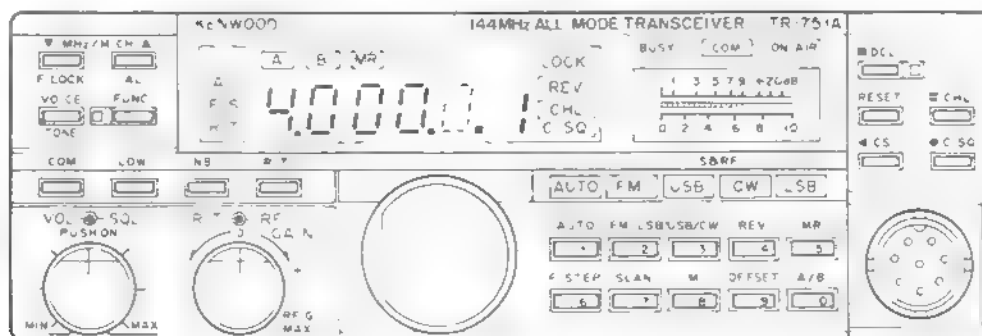

Fig. 13
- 6) Meter and display section should be set as follows **Fig. 13**.